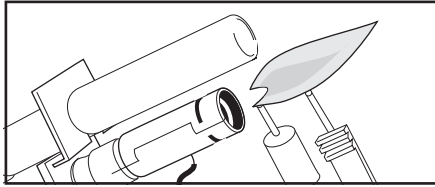

Fig. 29 Pilot flame is lifting.
4. Pilot flame does not touch the Thermocouple. (Figs. 29, 30)